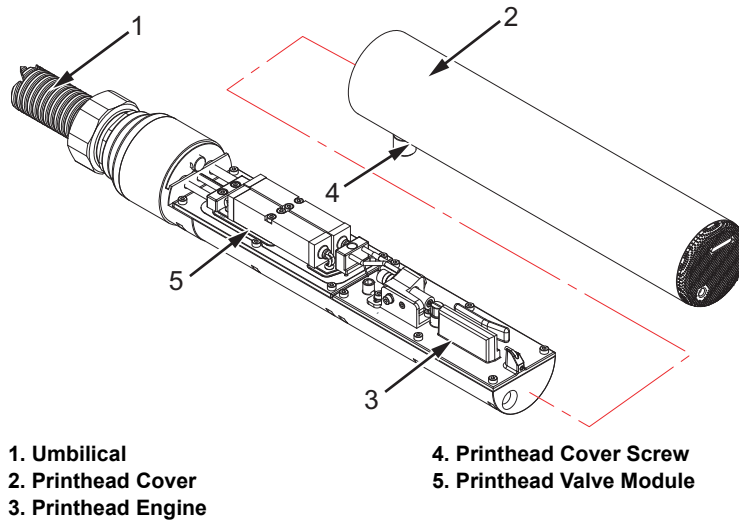

Figure 4-9: Printhead Cover Removed
- 14** Remove the printhead cover (see Figure 4-9 on page 4-9) and inspect for damages like: